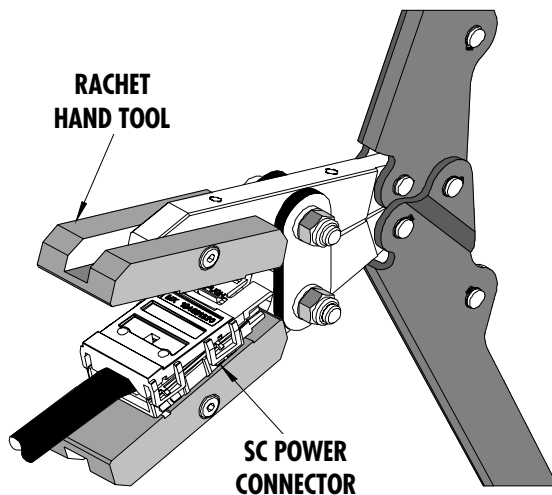

Figure 7
7. With the connector in position as shown in Figure 7 or 8, push the handles together simultaneously until fully closed and then open.